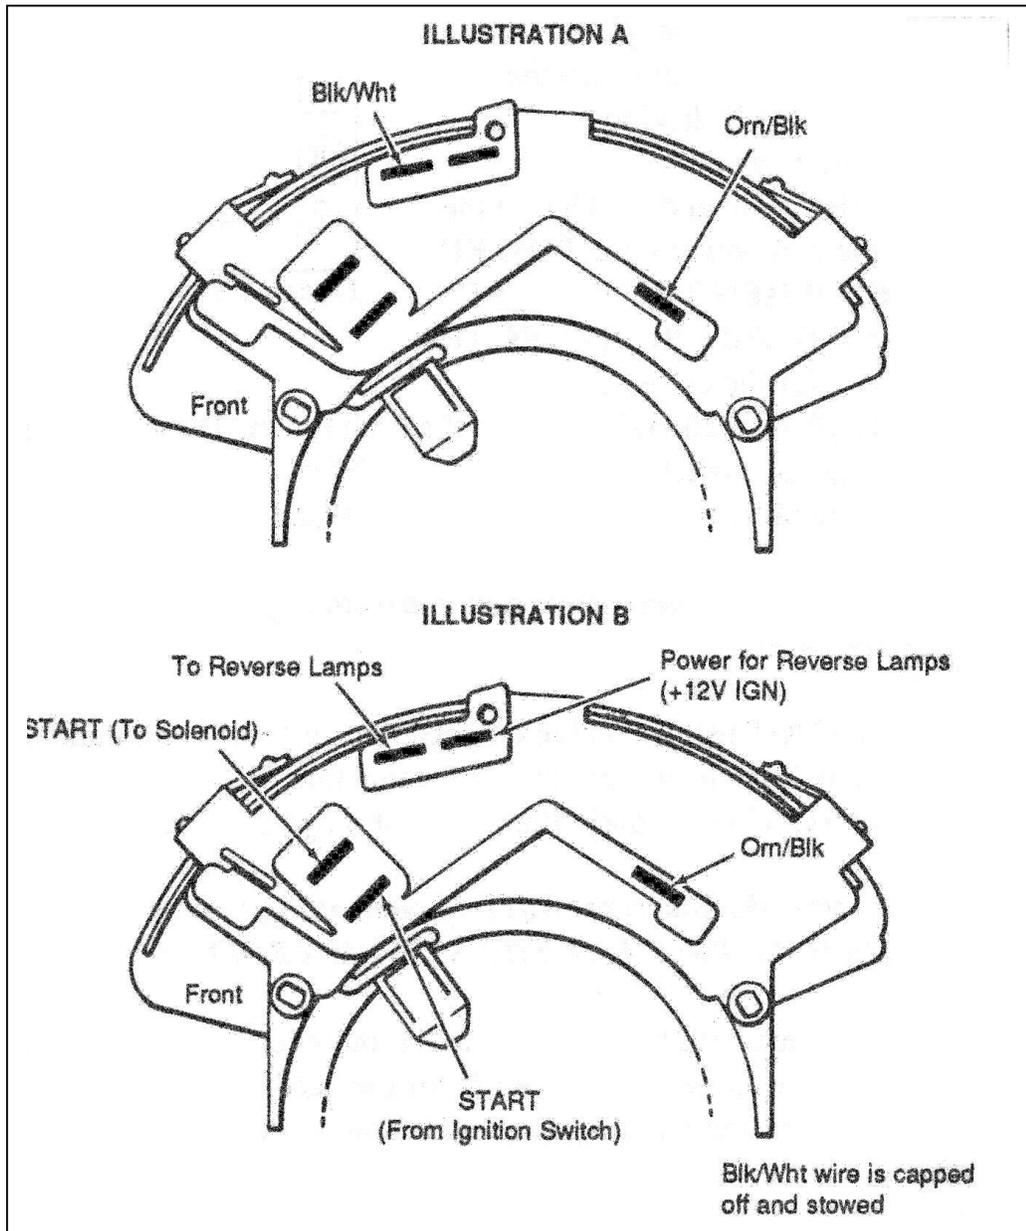

Figure 6.2 Neutral Safety Switch
2. If you are going to use the recommended switch for the computers benefit **only**, then you will wire it as shown in **Figure 6.2, Illustration A**.
3. The recommended switch is a combination reverse light **and** neutral safety switch. You may use it for these purposes **and** the computer signal **if** you wire it **exactly** as shown in **Figure 6.2, Illustration B**.